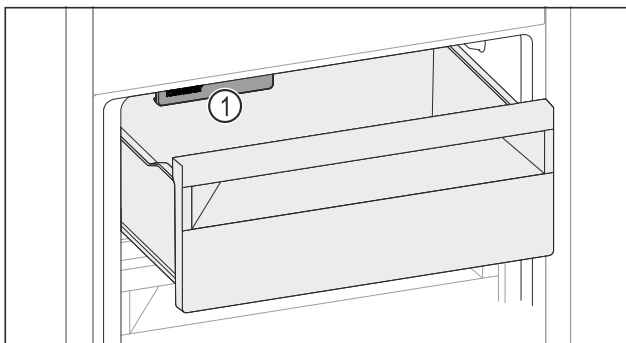

Fig. 111
- ▶ Watch out for the IceMaker Fig. 111 (1).